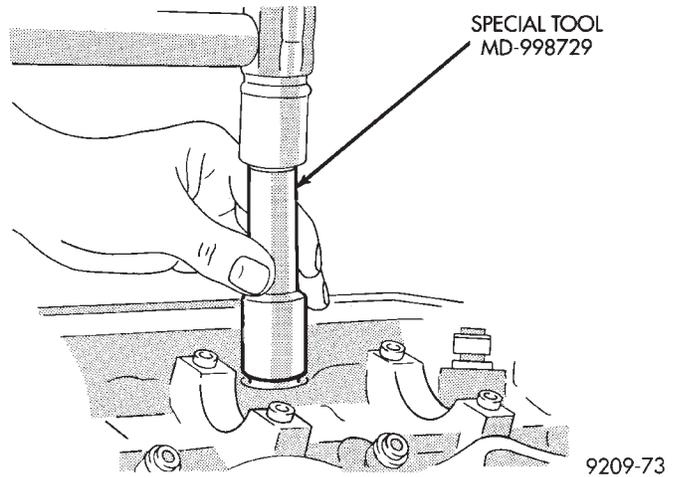

Fig. 24 Install Valve Stem Seals
- (1) Install valve spring seat.
- (2) Using suitable tool install seal by tapping lightly until seal is in place. (Fig. 24).